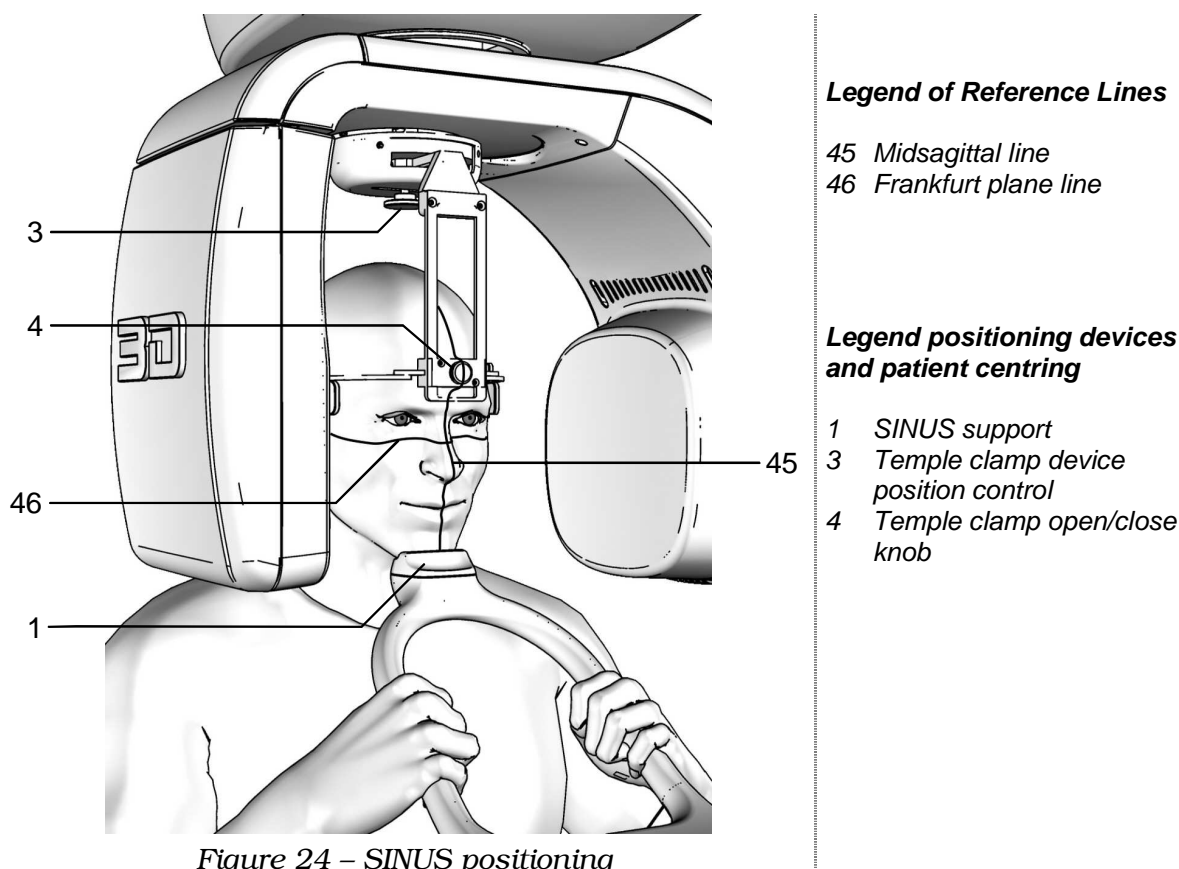

Figure 24 – SINUS positioning
4. Verify that the temple clamp device is in the central position (Figure 14), and if necessary move it using the appropriate control on the top of the support (3 - Figure 24).
5. Place the patient in the temple clamp (Figure 24) by placing the chin on the surface of the relevant support; the hands should rest on the front handgrips. Ensure that the patient rests his chin on the chin support for SINUS.
8. Press the key "Centring devices ON" (14) .
9. Place the temple clamp in contact with the patient's head by means of the appropriate knob (4 - Figure 24).
11. Press the key "Patient Entrance" (6)  to confirm the parameters. The luminous centring devices switch off and the rotating arm goes to its examination start position. Once alignment has been completed, the following message will be displayed: